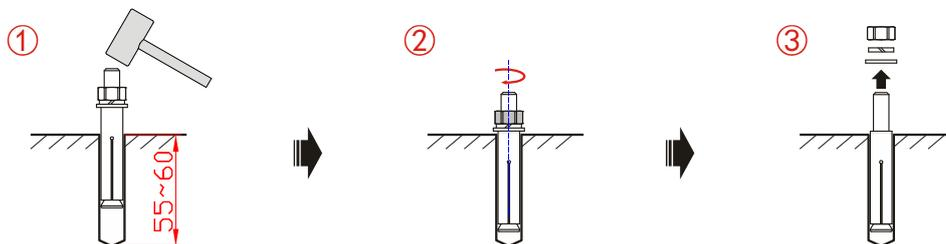

Figure3-7 Install the expansion bolt (unit: mm)
2. Drill holes and install the expansion bolts M10, as shown in Figure3-7.